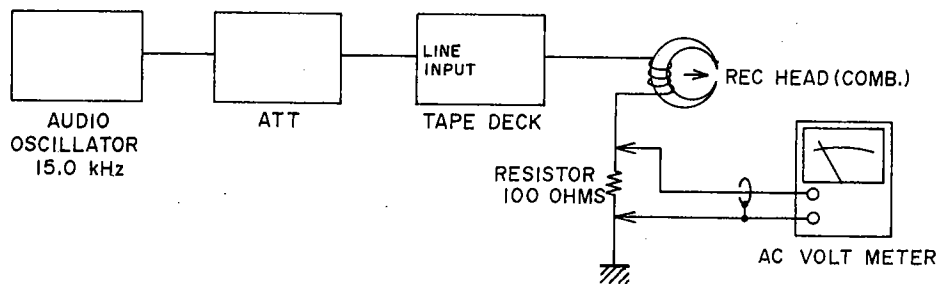

Fig. 15 Instruments Connections
| 11 | Rec Peaking Adjustment | 15.0 kHz from an oscillator | REC | VL2 33Y-740 | Maximum AC Voltmeter indication | (Refer to NOTES 9, 10 and Figs. 15, 16) |
4. If a flat characteristic cannot be obtained from 1,000 Hz to 10,000 Hz at LN, LH, or Fe-Cr positions, fine adjust at VR6 (LN), VR7 (LH), VR8 (Fe-Cr) respectively.
10. Stop recording Bias Oscillator while making Rec Peaking Adjustment. (Refer to Figs. 15, 16)